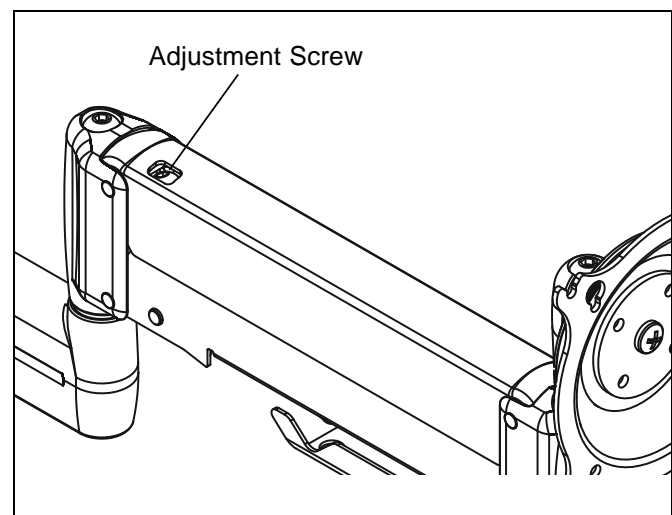

Figure 11
1. Using hex key, slightly loosen or tighten the adjustment screw as necessary (See Figure 11).